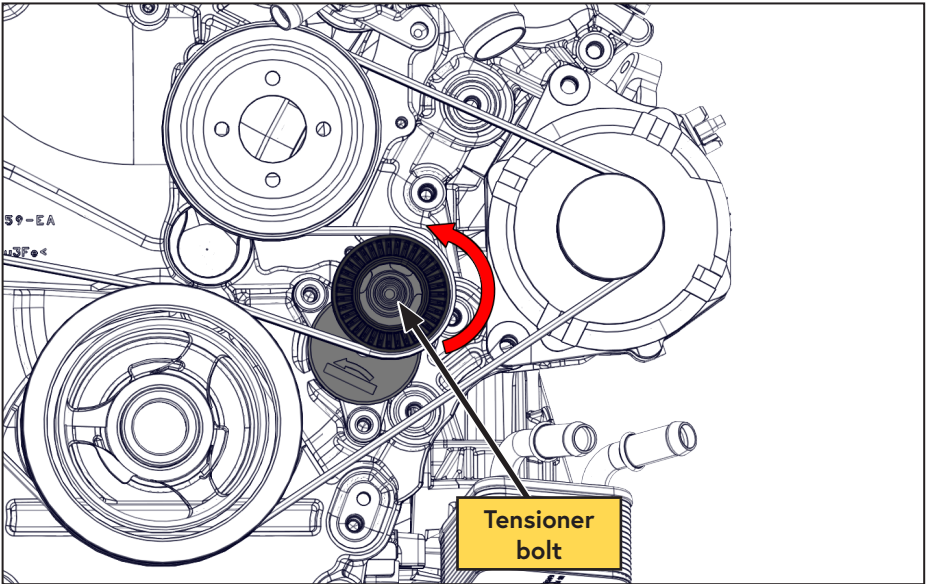

Figure 12 — Remove 6 rib belt from crank pulley
- From underneath the vehicle, use a 15 mm serpentine belt wrench to release the tension and remove the OEM 6 rib belt from the crank pulley. Tuck the belt out the way (Figure 12).